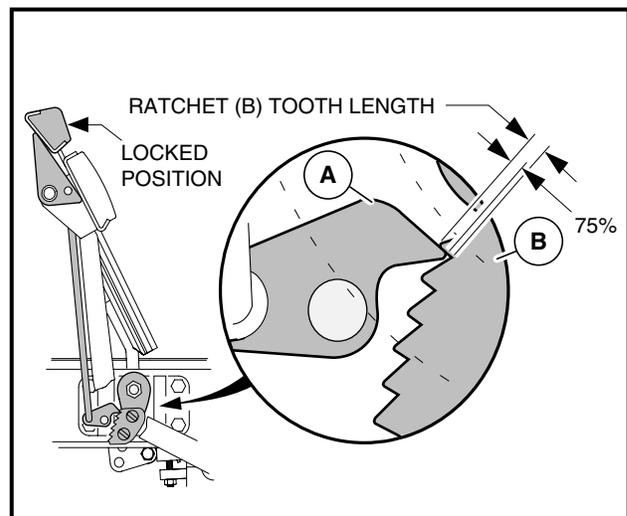

Figure 5-39 Ratchet/Pawl Tooth Engagement
- 4.4. With the park brake locked, make sure at least 75% of ratchet tooth length engages the pawl (**Figure 5-39, Page 5-23**). Tooth engagement should be between the two lines marked on the pawl.